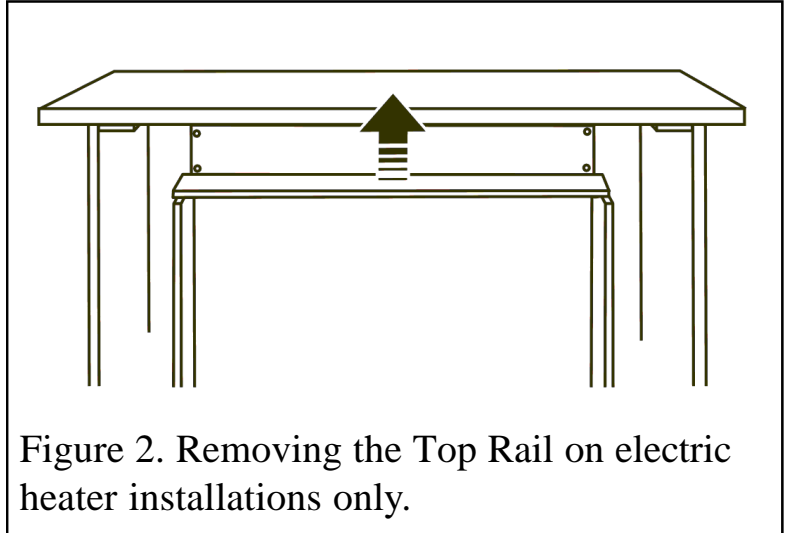

Figure 2. Removing the Top Rail on electric heater installations only.
- Unscrew and remove the top Inner Rail (See figure 2).